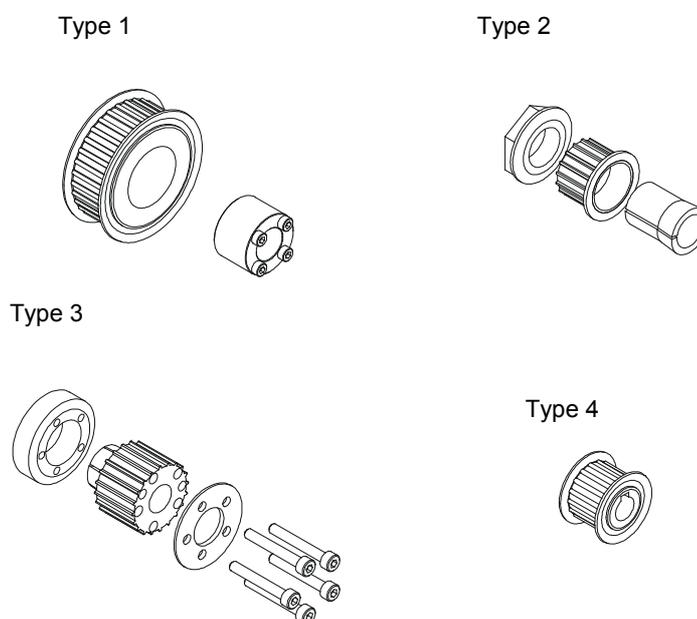

Figure 22: Motor toothed disc designs
Motor toothed disc is built differently depending on order (see *Figure 22*, bottom):
- Remove motor toothed disc (see *Figure 22, page 24*) from the motor shaft
- Install motor toothed disc (see *Figure 22, page 24*) on the new motor
- Remove motor toothed disc (see *Figure 22*, page 24) from the motor shaft and then install new motor